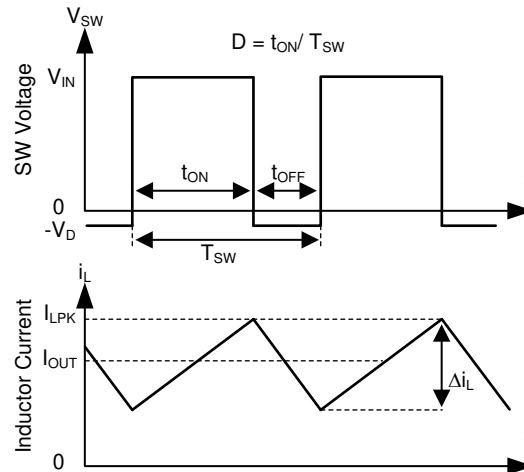

图 10-1. SW Node and Inductor Current Waveforms in Continuous Conduction Mode (CCM)
The following operating description of the TPS2584x-Q1 refers to the *Functional Block Diagram* and the waveforms in Figure 10-1. TPS2584x-Q1 is a step-down synchronous buck regulator with integrated high-side (HS) and low-side (LS) switches (synchronous rectifier). The TPS2584x-Q1 supplies a regulated output voltage by turning on the HS and LS NMOS switches with controlled duty cycle. During high-side switch ON time, the SW pin voltage swings up to approximately V_{IN} , and the inductor current i_L increase with linear slope $(V_{IN} - V_{OUT}) / L$. When the HS switch is turned off by the control logic, the LS switch is turned on after an anti-shoot-through dead time. Inductor current discharges through the LS switch with a slope of $-V_{OUT} / L$. The control parameter of a buck converter is defined as Duty Cycle $D = t_{ON} / T_{SW}$, where t_{ON} is the high-side switch ON time and T_{SW} is the switching period. The regulator control loop maintains a constant output voltage by adjusting the duty cycle D . In an ideal buck converter, where losses are ignored, D is proportional to the output voltage and inversely proportional to the input voltage: $D = V_{OUT} / V_{IN}$.